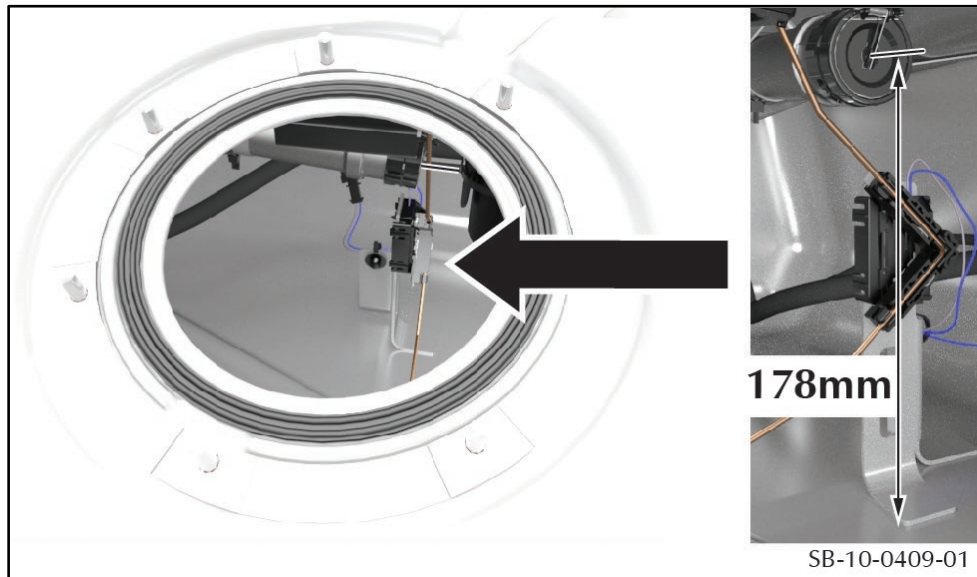

Figure 1
2. Measure the distance from the centre of the filling pipe inside the fuel tank to the bottom of the tank. Make sure that this distance is 178 mm (refer to Figure 1).